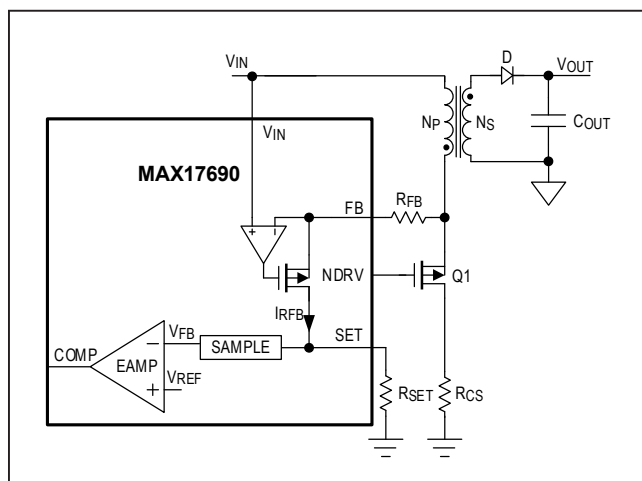

Figure 1. Simplified Diagram of No-Opto Flyback Operation
The MAX17690 senses the drain-node of the primary nMOSFET (Q1) while the secondary diode (D) is conducting (see Figure 1). During this sensing period, the drain-node voltage is the sum of the input voltage and reflected secondary winding voltage. Using an internal differential amplifier, the MAX17690 generates a current ( $I_{RFB}$ ) in the feedback resistor ( $R_{FB}$ ), which is proportional to